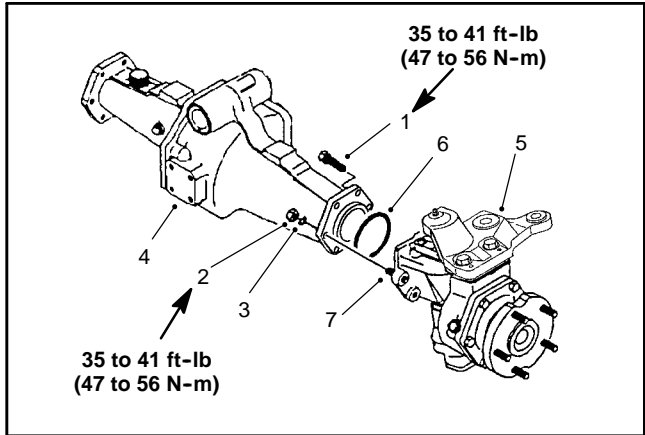

Figure 25
1. Remove the mounting screws, nuts and lock washers. Remove the bevel gear case/axle case assembly and O-ring from the axle support (Fig. 25).